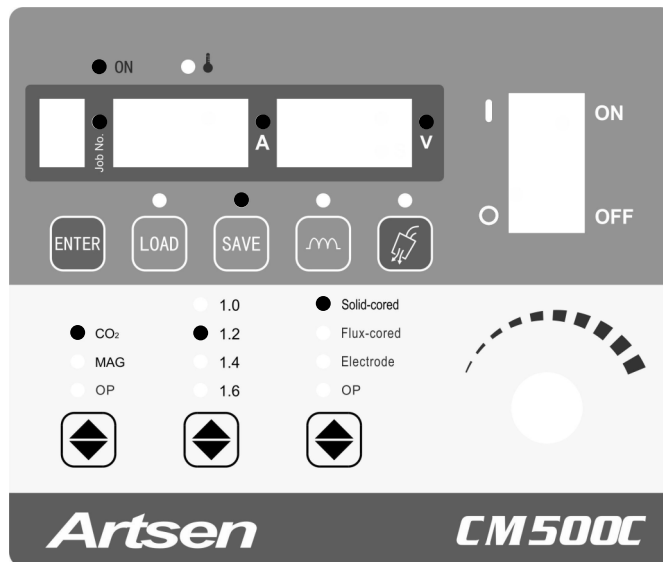

Figure 3-19 Loading parameter settings
4. Figure 3-19 shows the control panel where the parameters have been set.